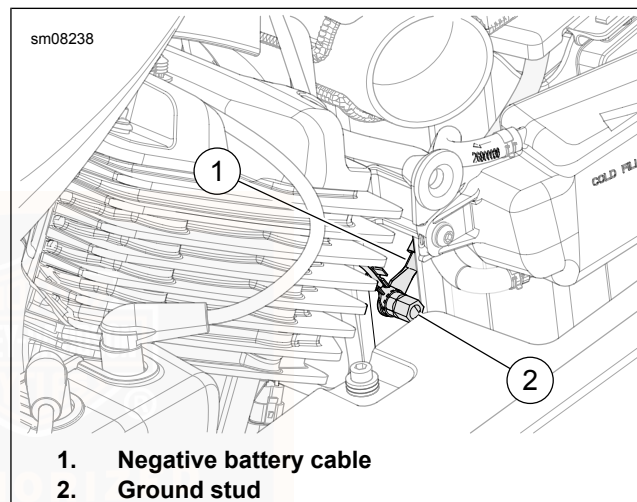

Figure 48. Battery Ground Cable
9. See Figure 48. Disconnect negative battery cable (1) from ground stud (2).
5. See Figure 48. Connect negative battery cable (1) to ground stud (2).